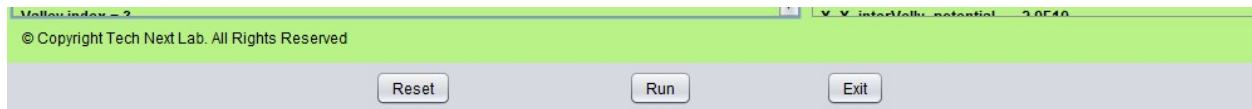
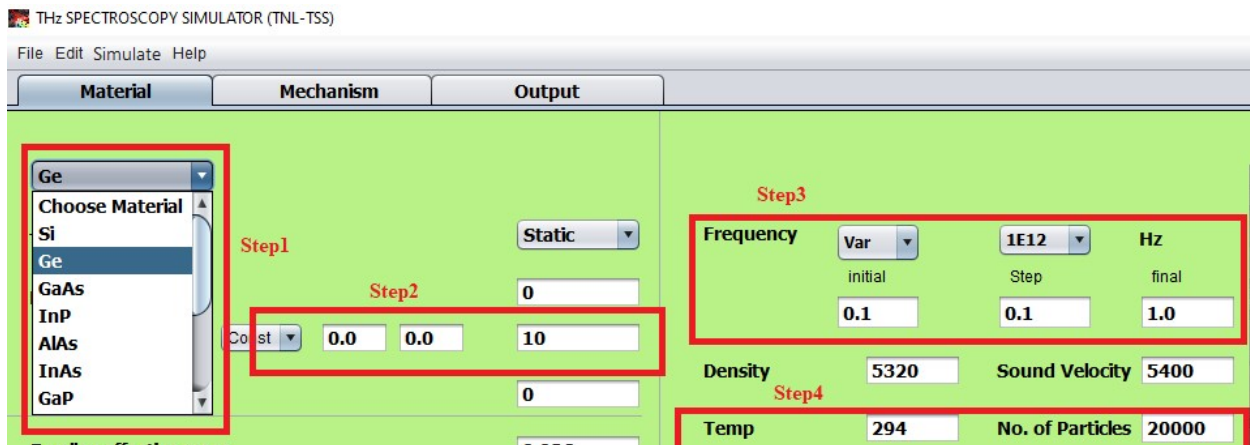

Figure 12: Other buttons
Figure 13:
To start the simulation user needs to press this Run button shown in figure 12. As user will press this button a pop window will open named save as shown in figure 13. By-default the selected directory will be ‘Documents’ of user computer, user can select any other directory of his computer. Then he needs to give the name of his simulation folder in the ‘File Name’ space and then press the ‘Save’ button. Thus, the working directory will be selected and all simulation will be saved in that folder.
Step 1: In material tab select Ge from the Choose material options. After clicking on Ge there some of the parameter will be loaded as shown in above figure 13 ins step1 red box.